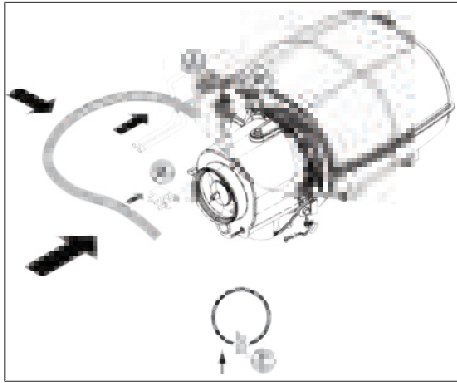

Fig. 52 Install drain hose (standard version)
1. Connect drain hose to 2 openings on ventilation/overpressure valve (A, D) and to 1 opening on solenoid valve (B). See Fig. 52 on the following page.
2. Position open end in cooling air outlet (C).